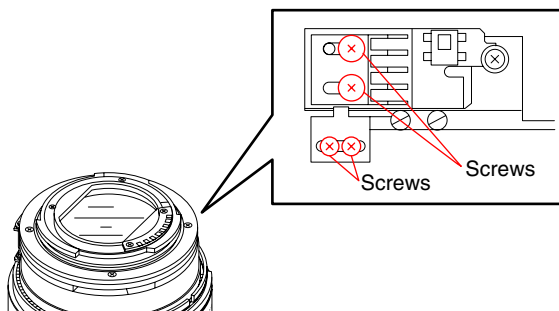

Fig. 4-7-6
- 1) Loosen the four screws as shown in the Fig. 4-7-6.